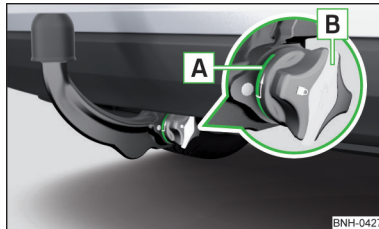

Fig. 109
**Correctly secured ball head** » Fig. 109